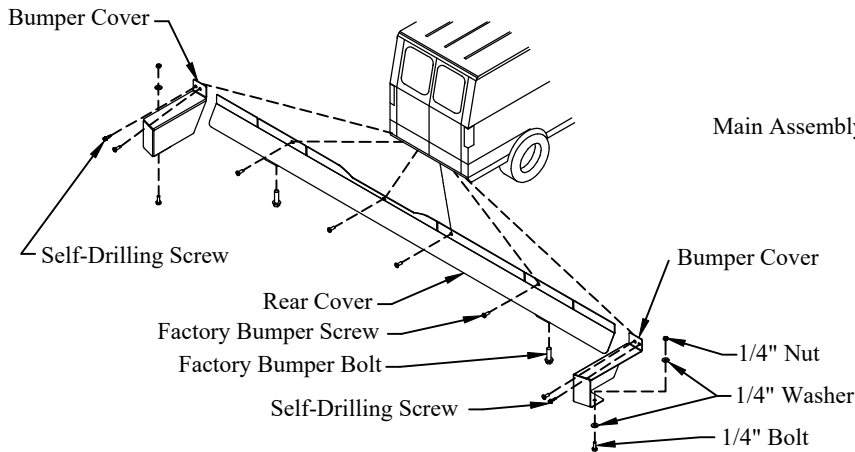

Figure 10: Rear cover hardware location.
8. **Install** the rear cover on the rear of the van (Figure 10). Reuse the vehicle bumper screws and bolts.
9. **Install** the left and right bumper covers. Use the supplied #12 self-drilling screws, 1/4" bolts, washers, and nuts, and factory bumper screws (Figure 10).